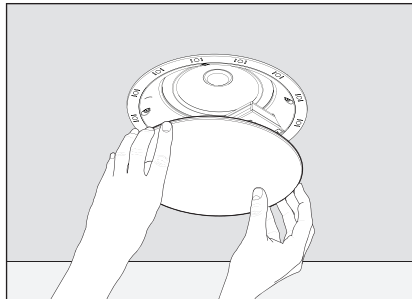

Fig. 5e
11. Gently press the grille into place (Figs. 5e & 6f).